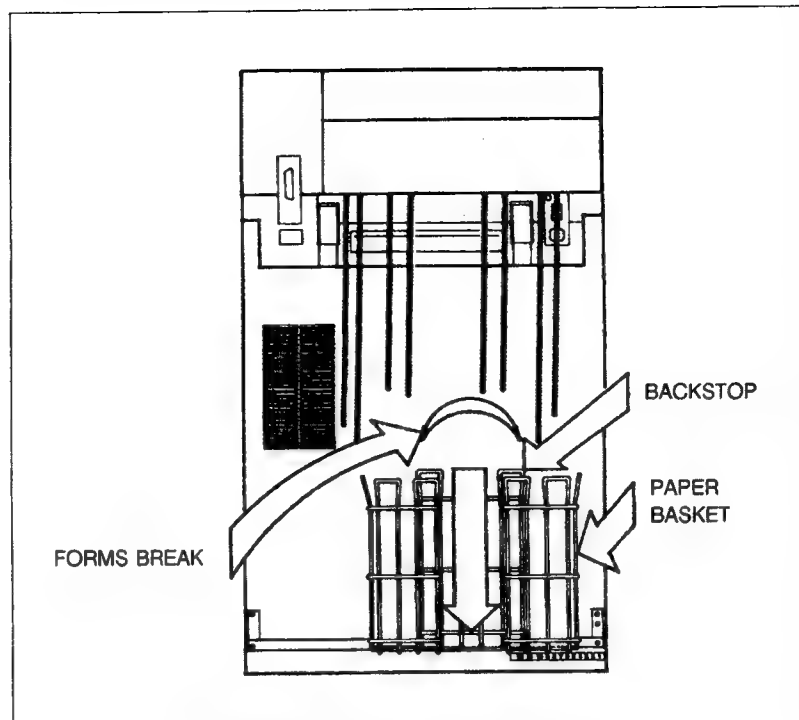

Figure 2-21. Paper Basket and Forms Break over Backstop
- h. Set the paper basket and forms break on the backstop. Put the paper basket on top of backstop with the open end facing the back panel. Place the forms break in the center of the basket (Figure 2-21). Make sure all eight chains hang freely inside the basket.